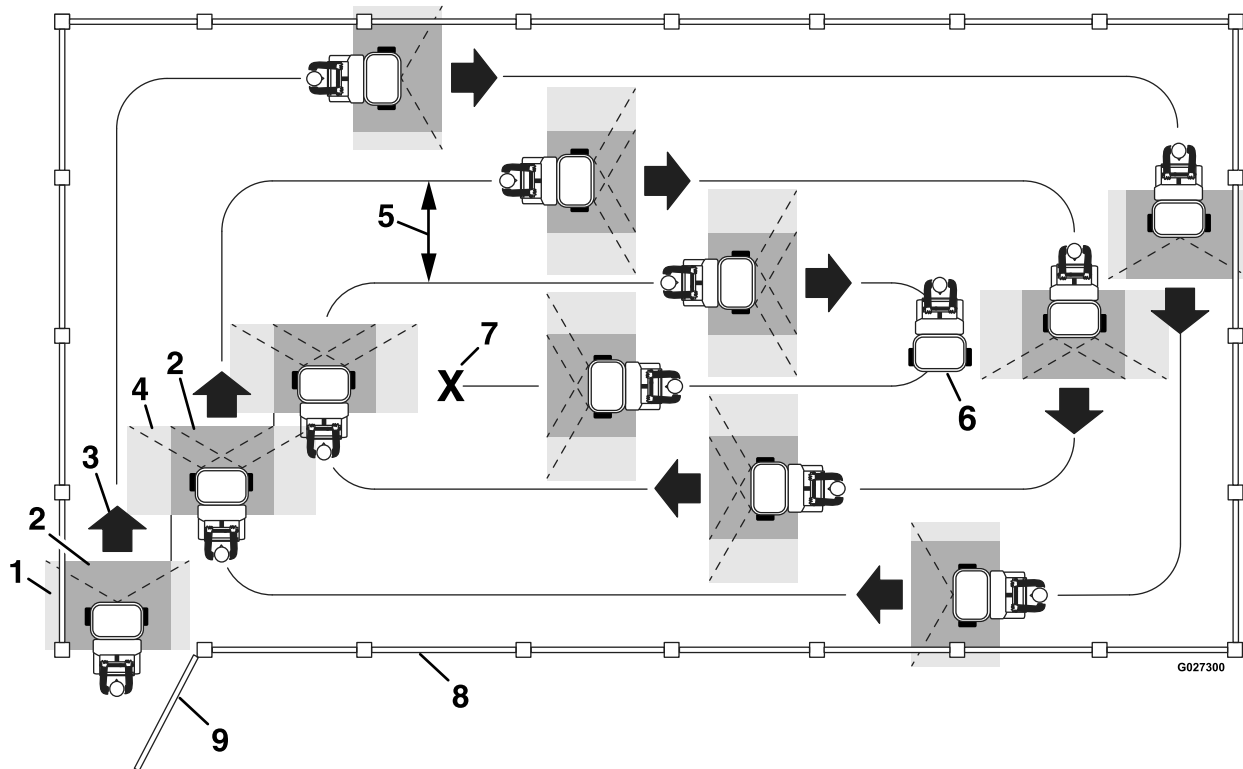

Figure 45
- Do not overlap the effective spray area that you have previously sprayed (see Figure 45).